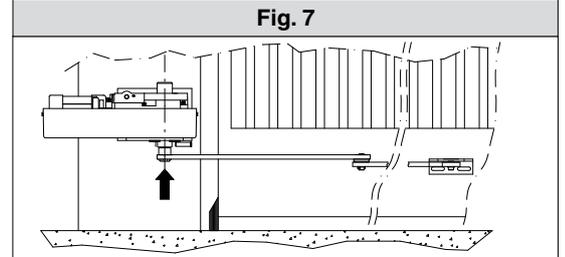

Fig. 8
- The correct position for the controller arm is shown in fig.8.
The leaf fixing point can be identified by positioning the arm so that it is in accordance with the distance shown in fig.8.